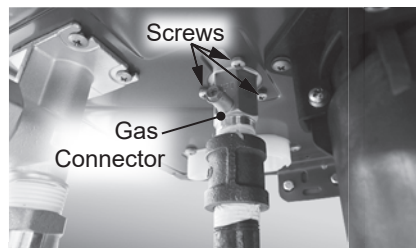

Figure 66 - Gas connector location
- 3 Locate the gas connector on the bottom of the water heater. See Figure 66. Disconnect the gas line to the water heater.
- 12** Locate the three (3) screws securing the gas connector to the base of the base of the cabinet. Use a Phillips screwdriver to remove the screws and place them aside in a safe place for reinstallation. See Figure 66.